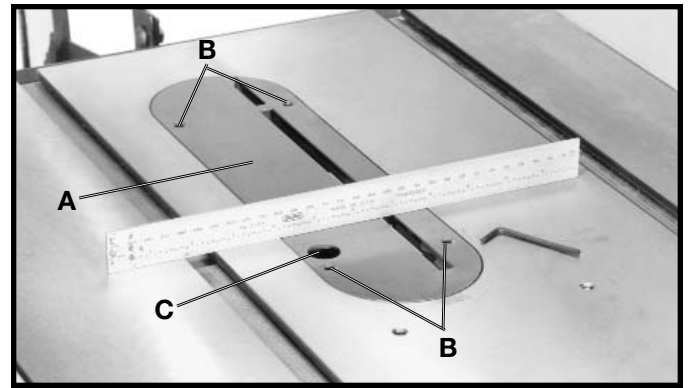

Fig. 68
Place a straight edge across the table at both ends of the table insert as shown in Fig. 68. The table insert (A) should always be level with the table. If an adjustment is necessary, turn the adjusting screws (B), as needed. Four adjusting screws (B) are supplied in the table insert. The table insert is equipped with a finger hole (C) for easy removal.